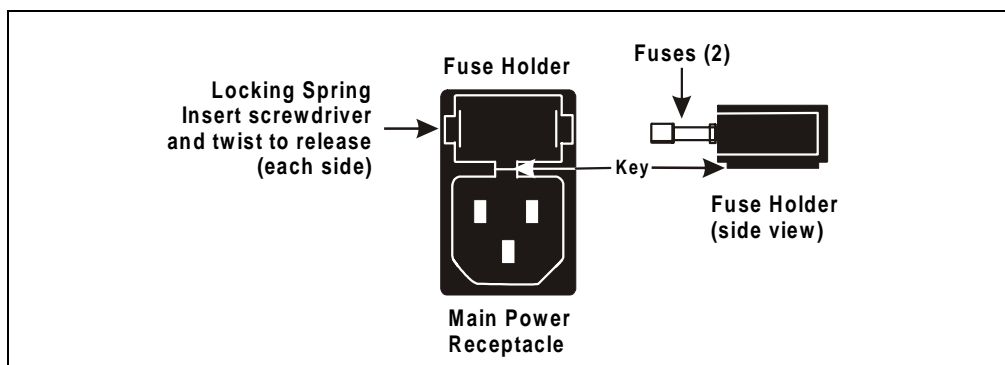

Figure 5-2. Main Power Fuse Holder
2. A recessed lock is located on each side of the fuse holder (see Figure 5-2). Using a small screwdriver, push each lock toward the center to release it. The fuse holder pops out slightly when the locks release. When both locks are released, pull the fuse holder straight out of its compartment.